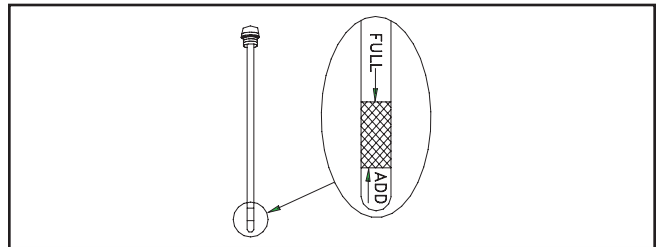

Figure 20: Dipstick
3. Verify oil is at “Full” mark on dipstick (Figure 20). Replace and tighten dipstick.
5. Slowly pour recommended oil (about 20 oz.) into oil fill opening. Pause to permit oil to settle. Fill to “Full” mark on dipstick (Figure 20).